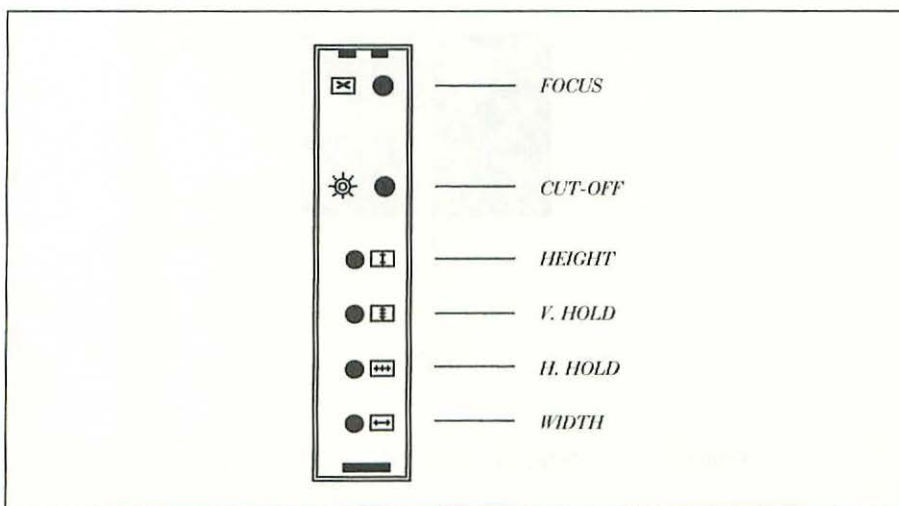
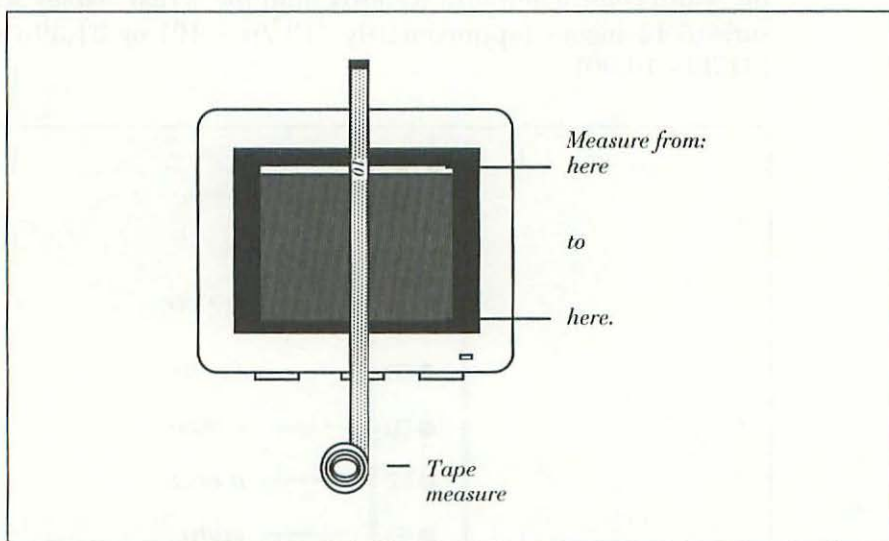

Figure 2-7 Control identification for Apple High-Resolution Monochrome Monitors.
Figure 2-8 Rotate the tape measure to check the height measurement.
To compensate for the screen curvature, hold your eye so that it's perpendicular to the left side of the display, and line up the 10-inch (or 10-centimeter) mark on the ruler with the left edge of the T-squares. Hold the tape in place at that spot. Now hold your eye perpendicular to the opposite side of the display and compare the right edge of the T-squares to the 18.42-inch (31.39-centimeter) mark on the ruler. Is the actual display narrower or wider than specified? If so, refer to Figure 2-7.
When the width measures exactly 8.42 inches or 21.39 centimeters, rotate the tape measure and check the height as shown in Figure 2-8. To avoid confusion between window height and display height, refer to notes 4, 5, and 6 on the T-squares display. Is the actual display height taller or shorter than specified? If so, refer to Figure 2-7. The height control is symbolically identified as a vertical line with arrows at either end. On this particular monitor, it's also the third control down (not the fourth control down). To correct the height, insert the screwdriver end of a plastic TV alignment tool (not a metal screwdriver) into the height control and turn it slowly until the actual display height measures 6.32 inches (approximately $16\frac{1}{3}$ - 10) or 16.04 (26.04 - 10.00) centimeters.
As shown in Figure 2-7, the focus control is symbolically identified by an x. On this particular monitor, it's also the control at the top of the panel. To adjust the focus, insert the screwdriver end of a plastic TV alignment tool (not a metal screwdriver) into the focus control and turn it slowly until all of the diagonals appear to be equally sharp.
2. Locate the horizontal-hold control. The horizontal-hold control is identified by a horizontal line with a dot in the middle and an arrow at either end. On this particular monitor, it's also the fifth control from the top, as shown in Figure 2-7.
2. Locate the vertical-hold control. The vertical-hold control is identified by a vertical line with a dot in the middle and an arrow at either end. On this particular monitor, it's also the fourth control from the top, as shown in Figure 2-7.
2. As shown in Figure 2-7, the cut-off control is identified by a star. On this particular monitor, it's also the second control from the top. Insert the screwdriver end of a plastic TV alignment tool (not a metal screwdriver) into the cut-off control and slowly turn it counterclockwise until the black raster just fades into screen border. Stop when they're exactly the same shade. Don't overadjust (or the display will lack brightness).